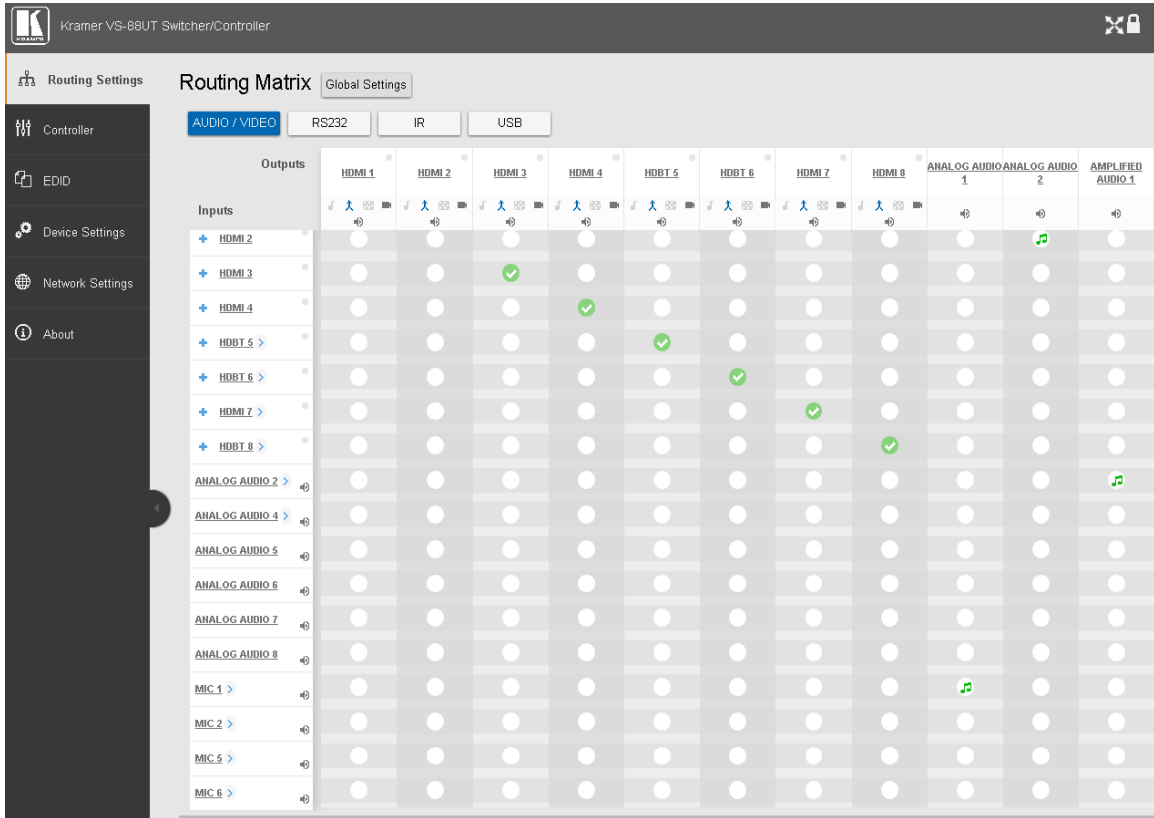

Figure 15: Routing Settings Page with Navigation List on Left
1. In the Navigation pane, click **Routing Settings**. The Routing Matrix page appears (see Figure 15).